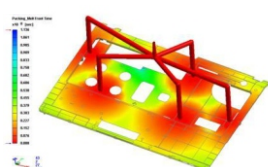

Fig.7 The flow simulation of cover part of laptop
1. Observe the simulation of melt front, and users can understand the influence of various thickness conditions in the flow process. Fig. 7 shows the flow analysis of multi-gate product.